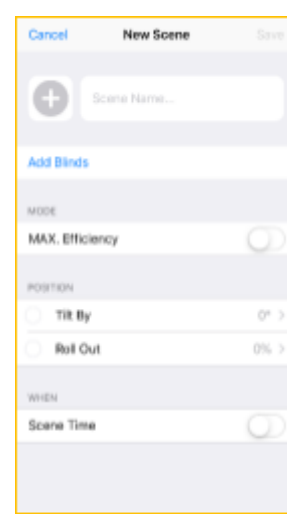

Figure 26
**10.7.3.** Fill in the required fields (Fig. 26):